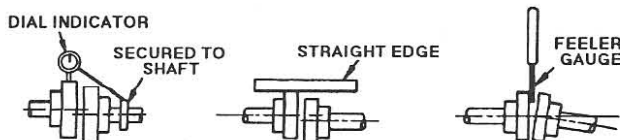

Figure 3 - Alignment Check
2. Alignment is critical to good pump performance and is frequently disturbed during shipment, handling or installation. Before operating the pump, check the alignment of the driver, gear reducer, and the pump (see Figure 3).